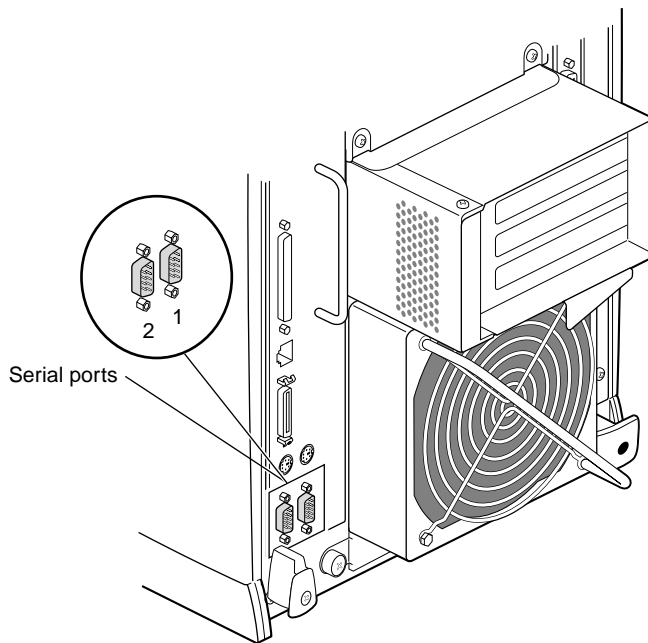

Figure 6-12 Locating the Serial Ports on the System Module
1. Locate the serial ports on the back of the OCTANE workstation, as shown in Figure 6-12.